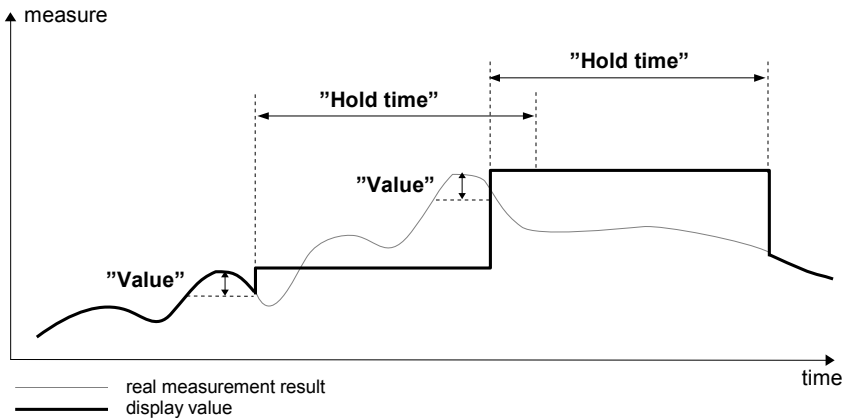

Fig. 7.37. Process of peak detection
- **peak detect** – function which allows to detect and visualize peak values in measured signal. Detection of the peak value can be done if the measured signal raises and drops (or the opposite) by value, which is settable by the user. Next, the detected value can be hold for settable by user period of time. If during the time when peak is detected, new peak is detected, then the peak value is updated and the time of hold is reset. When this time will elapse, or no peak is detected, the device will display current value of the signal (see **Fig. 7.37**).